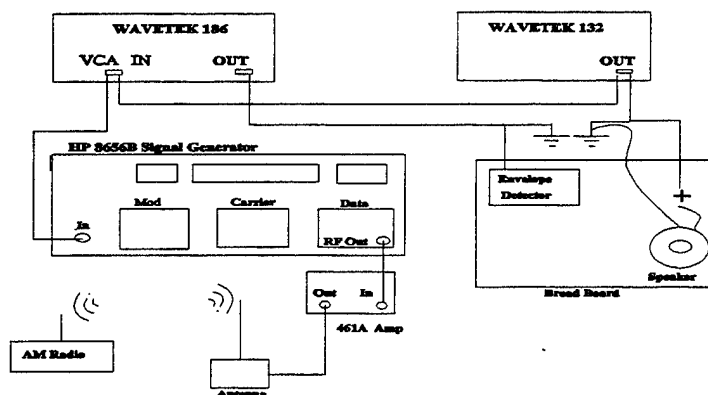

Figure 3
b) Split the input to the Wavetek 186 so the signal off the Wavetek 132 also goes to the HP8656B signal generator input, you will directly modulate this signal onto a 1.5 MHz carrier. Connect the RF out of the HP8656B to the HP461A amplifier input. Set the amplifier on 20dB. Connect the output of the amplifier to the antenna. Plug in the radio. Verify your setup with Figure 3. Note that we are modulating our sine wave onto the 20 kHz carrier at the Wavetek 186 and separately modulating it onto a 1.5 MHz carrier at the HP8656B for comparison purposes.